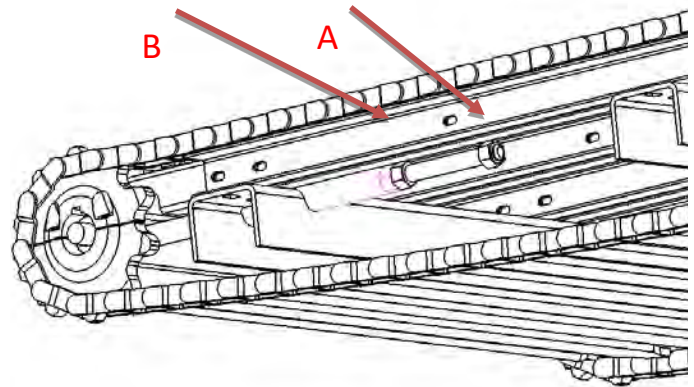

Figure 7-2: Sectioned View of the Floor Chains with Adjustment Rods
1. Under the floors at the end there is a tensioning system that uses two, $\frac{3}{4}$ " adjustment rods (A) as show in Figure 7-2. To start tensioning loosen the hex nuts (B).
2. Drive the adjustment rods (A) in small amounts at a time while measuring the slack until it reaches the preferred level.